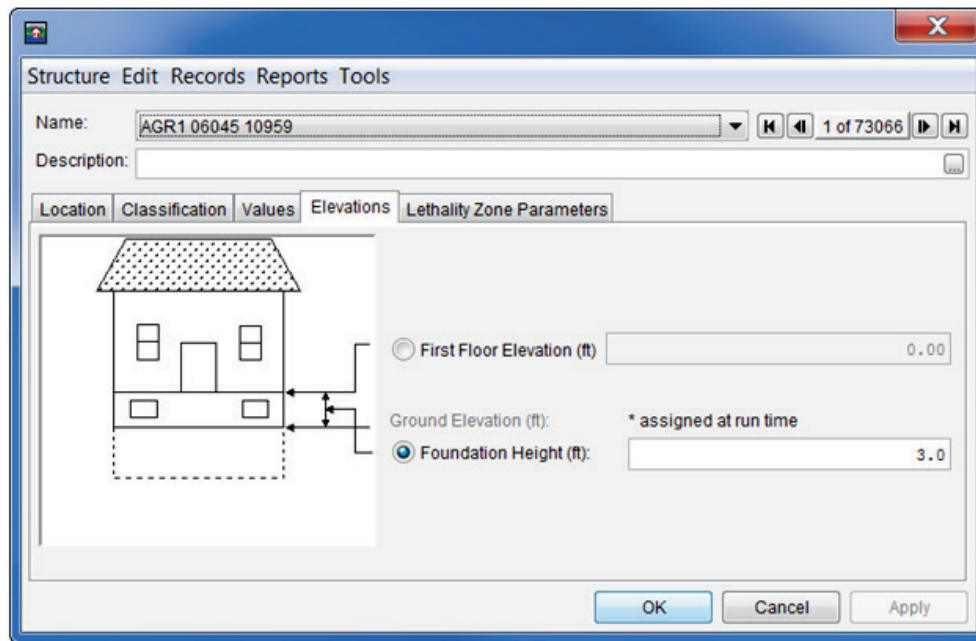

Figure L.23 HEC-FIA – Structure Editor
2. The FIA **Structure Editor** will open (Figure L.23). This editor allows the user to change information about a structure's location, occupancy type data, structure value, content value, first floor elevation, foundation height, ground elevation, and lethality zone parameter data. For further detail on this editor, reference the HEC-FIA User's Manual.
3. Click **OK**, the HEC-FIA **Structure Editor** (Figure L.23) will close.